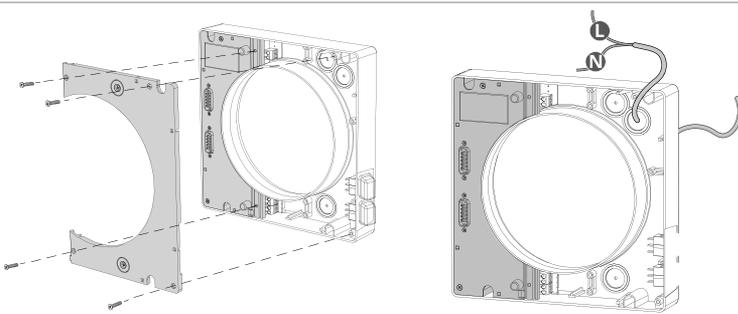

Figure 3
3. Remove the cover of the mounting plate to access the control board (Figure 3), which is necessary for connection to power mains and ventilators in series. For details, see wiring diagrams on pages 8 - 9. Carefully remove the cover of the mounting plate, avoiding damage to the connecting cables. Install cables with care.